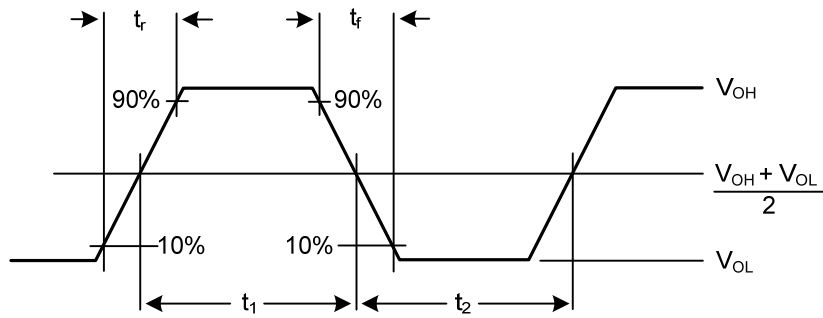

Fig. 5 Definition of output and input transition times.
5. Transition time and duty factor definitions are shown in Fig.5, $\delta = \frac{t_1}{t_1 + t_2}$